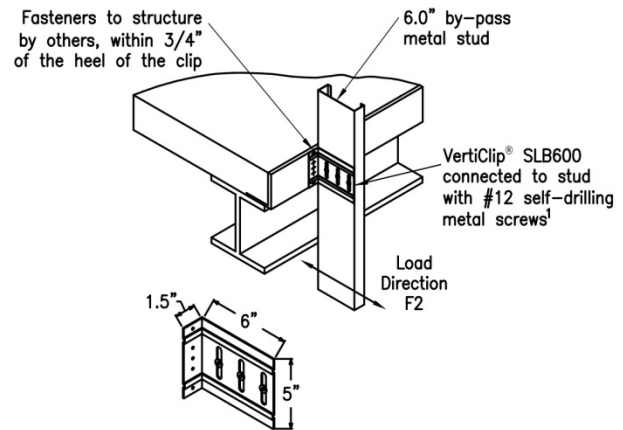

Figure 2 – VertiClip® SLB600
3.1.3 VertiClip® SLB: The VertiClip® SLB600 is an L-shaped angle that connects 6 inch deep (152 mm) exterior curtain wall steel studs to a concrete floor slab's pour stop angle while allowing a maximum of 2 inches (51 mm) of vertical movement between exterior wall elements and the primary structure. The minimum base-metal thickness of the clip is 0.0677 inch (1.7 mm). The long leg of the connector, which is fastened to the curtain wall stud, has three vertical slots, each $\frac{3}{8}$ inch (9.5 mm) wide by $2\frac{3}{8}$ inches (60.3 mm) long. Refer to Figure 2 for overall dimensions of the VertiClip SLB600 connector and a typical installation detail.